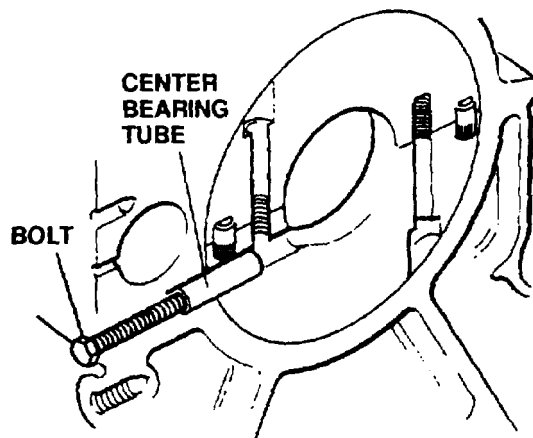
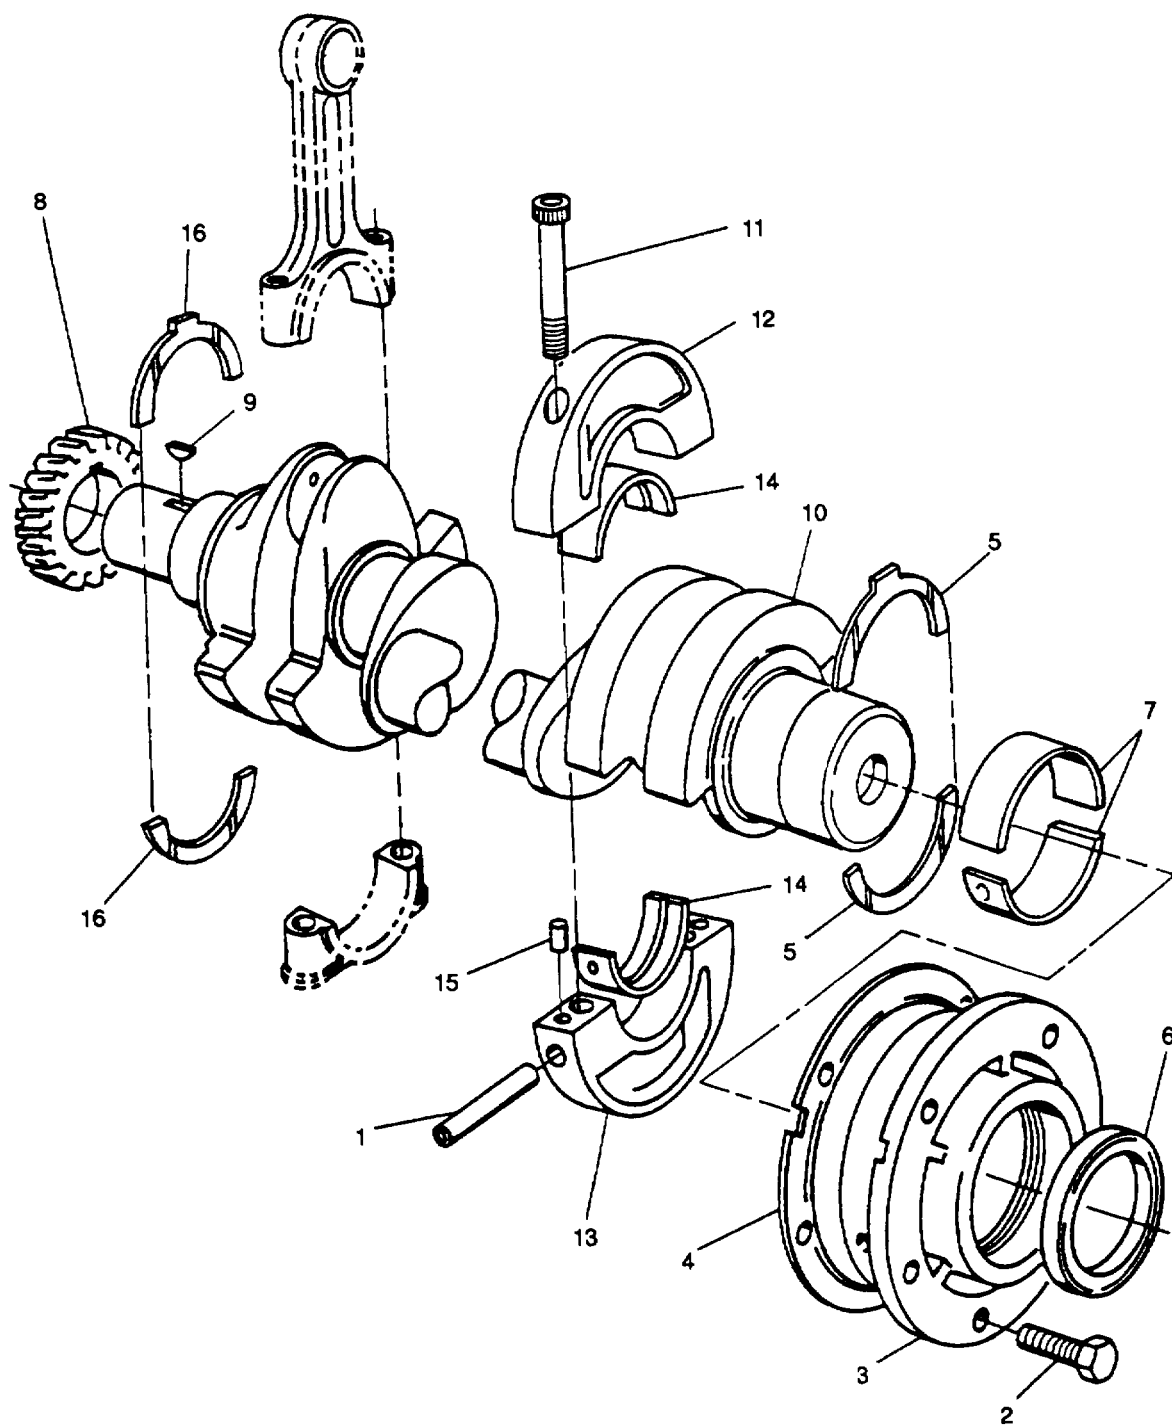

FIGURE 3-39. Center Bearing Tube
FIGURE 3-40. Crankshaft Assembly
- d. Use an intake manifold bolt to remove center bearing tube (1, FIGURE 3-40). Leave bolt in tube until it is installed to ensure tube is installed correct way. Refer to FIGURE 3-39.
- e. Remove five capscrews (2, FIGURE 3-40) securing main bearing housing (3).
- f. Remove bearing housing (3). If it is tight, use two recesses in 3 o'clock and 9 o'clock positions and pry it off with a suitable screwdriver. Remove and discard shim (4).
- (3) Install bolt and dolly into bearing (7, FIGURE 3-40) from oil seal side (crankcase outside face).
- (4) Install bridge over bolt threads until two legs are against housing face.
- (5) Install spacer and nut onto bolt.
- (6) Use a suitable wrench to tighten nut until bearing shells (7) are withdrawn.
- a. Install bearing (7, FIGURE 3-40) in main bearing housing (3) as follows:
- (1) Mount housing (3) in a soft-jawed vice with small oil feed hole facing up.
- (2) Place large tapered collar of main bearing tool (317-50111) on a bench with pilot facing up.
- (3) Place new bearing shells (7) into collar ensuring one oil feed hole is in line with pilot pin of collar and end of shell is in line with the mark on collar face.
- (4) Place driver onto collar with cutout on driver located over collar pilot pin.
- (5) Push driver sufficiently until bearings (7) come out other side of collar to provide a lead in.
- (6) Install assembly into housing (3) from oil seal side (crankcase outside face) with pilot pin in line with oil feed hole in housing.
- (7) Place bolt through assembly.
- (8) Install bridge, spacer, and nut onto bolt.
- (9) Tighten nut until driver is against face of collar.
- (10) Remove tool.
- i. Using a suitable puller, remove crankshaft pinion gear (8, FIGURE 3-40). Remove key (9) from crankshaft (10).
- Position new center bearing shells (14, FIGURE 3-40) on upper and lower housing. If necessary, install two dowel pins (15) in lower housing (13). Install upper housing (12) and lower housing (13) ensuring words FLYWHEEL END are facing flywheel end of crankshaft (10). Secure with two capscrews (11) and tighten to 186 in-lbs (21.0 Nm).